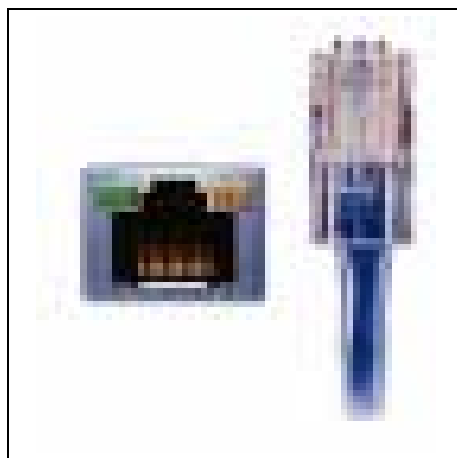

Figure 11B
This error is generated whenever Fan/Heater board has lost its communications link with the Input/Output board (upper control panel) and the Master Display board (lower control panel). Check the ethernet cable jacks to make sure they are plugged in tightly. An ethernet cable is a computer communication cable that looks like the phone cable in the home. *(See Figure 11B on Page 62.)* The reference to the number one (FH1) is telling you that it is fan number one (1) which is the bottom most fan.